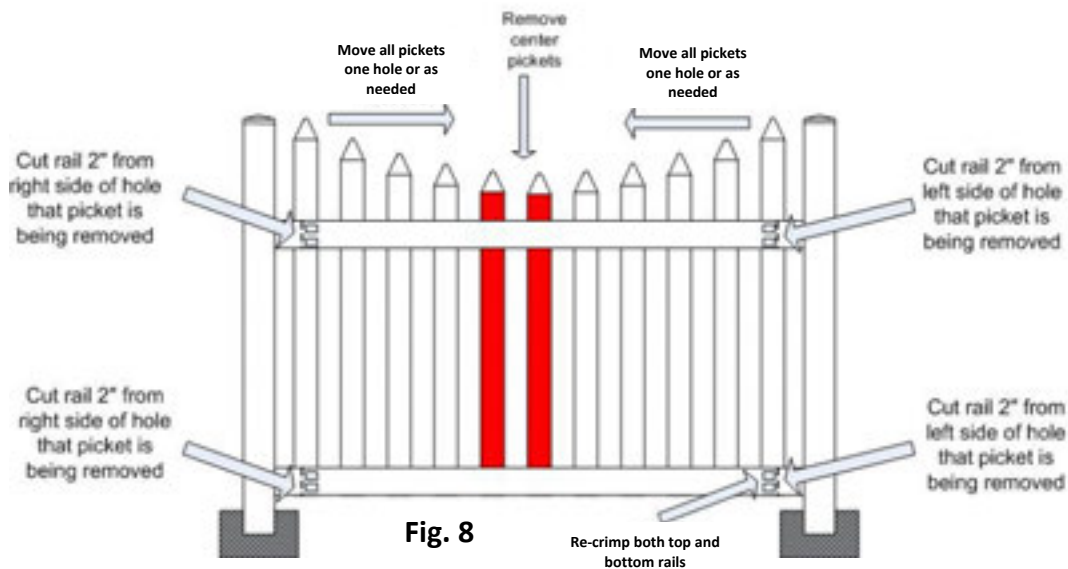

Fig. 8
**Step 4.** For Scallop picket fence styles, it is best to work from the center out (Fig. 8).
**NOTE:** For Scallop Picket styles, because the pickets vary in lengths, the rails need to be shortened on both sides. Determine what size your fence section needs to be cut down to, then cut both top and bottom rails to within 2" from the left and right side of the hole that is the last picket being removed from each side. Pickets will be removed from the center outwards assuring the height of the outer pickets will match the height of the outer pickets of the adjacent fence panels. Mark cut lines first with pencil to double check and safeguard that the rails, after cutting, will measure 1" less than the on-center measurement (Fig. 8).